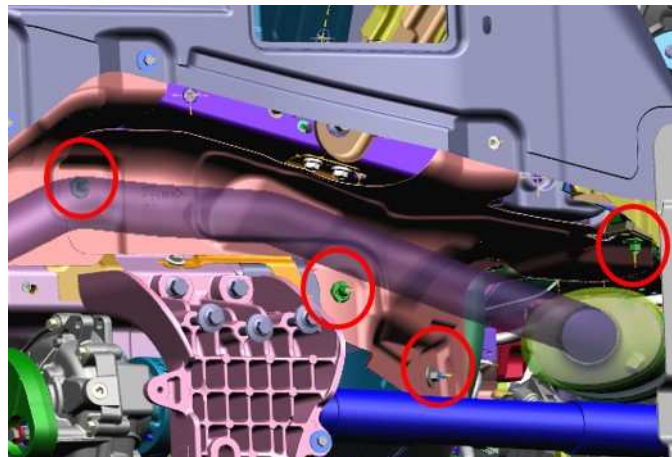

Fig. 7
4. Remove the four fasteners securing the right front heat shield to the body (Fig. 7) .
9. Install the four fasteners securing the right front heat shield to the body (Fig. 7) . Tighten steel nuts to 6 N·m (53 in. lbs.) and plastic nuts to 4 N·m (35 in. lbs.).